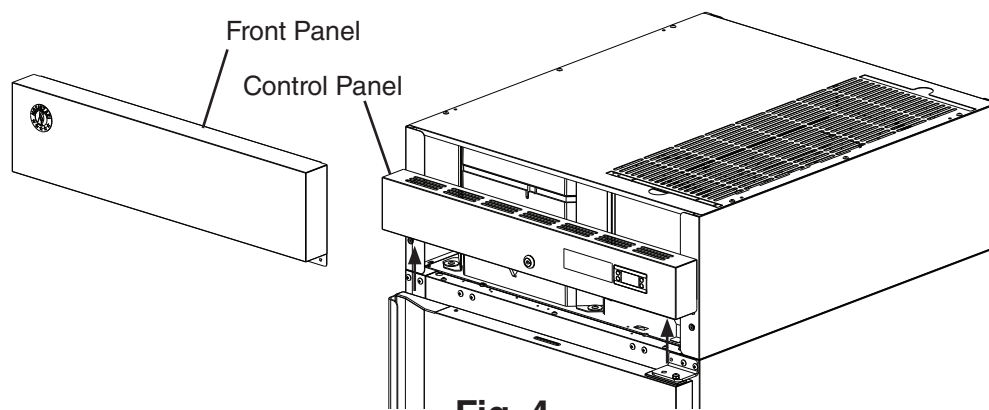

Fig. 4
- 2) Remove the front panel, then being careful not to pull the wires on the control module and door switch(es), remove the control panel. Secure the control panel so that it does not interfere with the hinge bracket and will not fall. See Fig. 4.